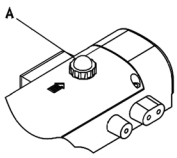

图5 (Fig.5)
(1) 润滑油的注入 (图5&6)
1.Filling lubricant oil :(Fig.5&6)